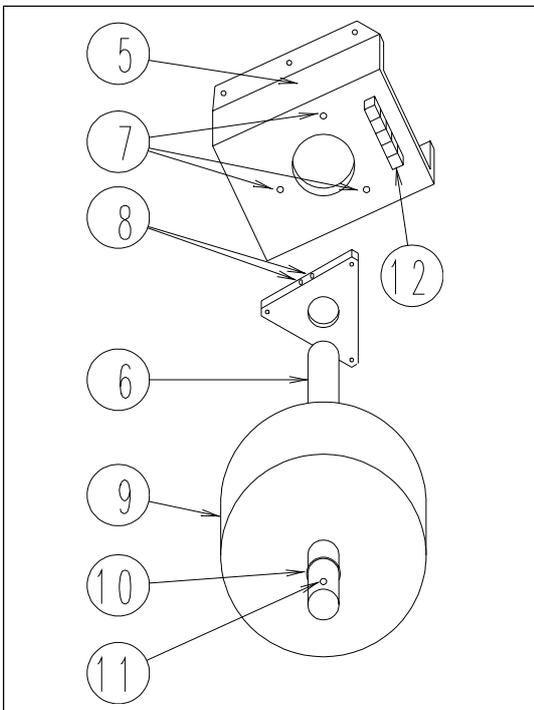

Figure 8. Operating lamp on the ceiling.
- 1) Mount the base board on the ceiling as shown in Fig. 8 (5).
- 2) Shorten the adapter tube at the end with no pre-drilled holes for lock screws, see Fig. 8 (6) (length = room height - 205 cm).
- 3) Unscrew the flange from the base board, see Fig. 8 (7).
- 4) Fasten the tube to the flange so it is level with the side of the flange facing the ceiling, see Fig. 8 (8).
- 5) Screw the flange to the base board and adjust the flanges so the tube is vertical, see Fig. 8 (7).
- 6) First fit the protection (9) and then the O-rings (10) on the tube, see Fig. 8.
- 8) Screw the back arm of the lamp onto the tube, see Fig. 8 (11).
- 9) If necessary, shorten the cable and connect the conductors to the terminal strip, see Figs. 8 and 9 (12). The cable shield is not to be connected.